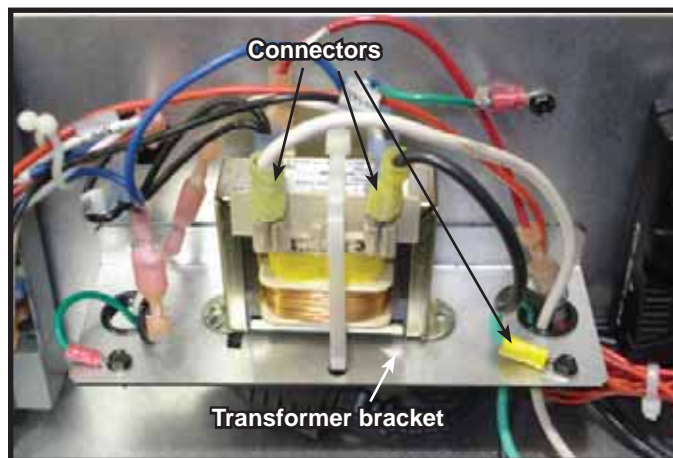

Figure 10.2
3. Locate the (2) female insulated connectors installed on the transformer and the (1) ground connector screwed to the right side of the transformer bracket.
Note: The factory installed yellow female insulated connectors (2) and yellow ground connector (1) are designed for use with 10/12 AWG wire. If another gauge wire is being used, these connectors should be replaced with the appropriate gauge insulated connectors to ensure a proper connection. See Figure 10.2.
5. Connect the L1 (Black) service wire to the supplied yellow female insulated connector located on transformer terminal (23) using a wire crimping tool. See Figure 10.2.
6. Connect the neutral (White) service wire to the yellow female insulated connector located on transformer terminal (1) using a wire crimping tool. See Figure 10.2.
7. Connect the ground (Green) wire to the 1/4 in. ground screw located on the front right of the transformer bracket. See Figure 10.2.